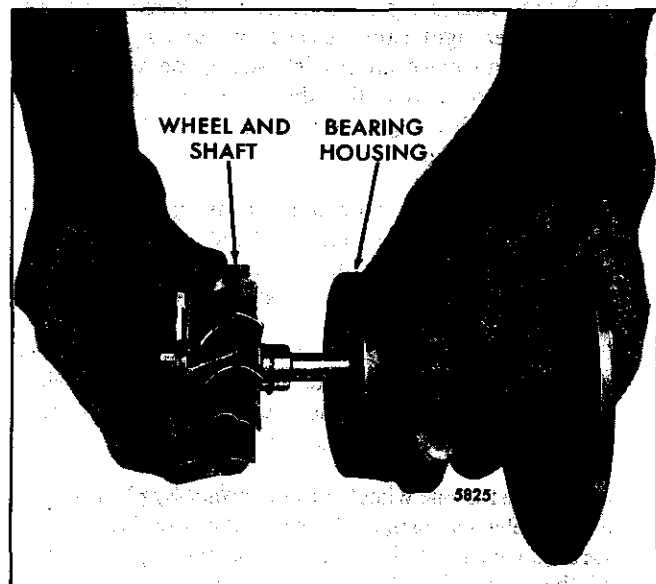

Fig. 15 – Installing Shaft and Wheel Assembly through Back Plate into Bearing Housing
4. Lubricate the piston ring area of the shaft and wheel assembly with clean engine oil and install it through the backplate and into the bearing housing (Fig. 15). *Be careful and avoid damage to the piston ring.*